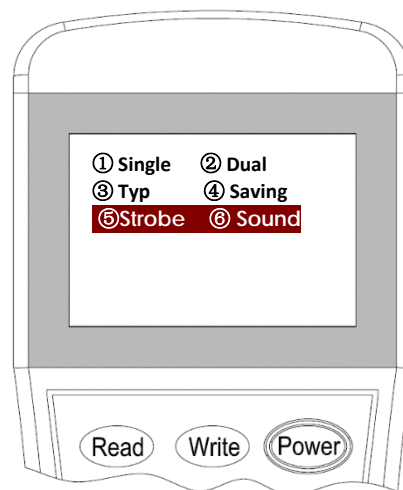

Figure 14
3. Input the **“5”** for **Strobe** type or **“6”** for **Sounder** type, then press **“Write”** to change the setting into the desire mode (Figure 14).